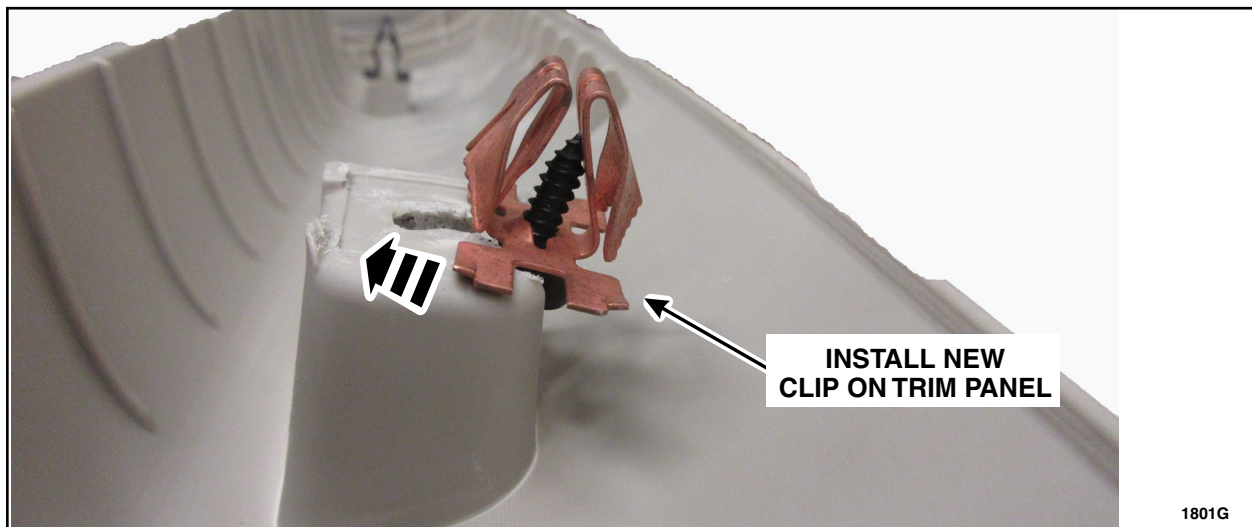

FIGURE 5
6. Install the new A-Pillar trim panel clip onto the trim panel. See Figure 5.